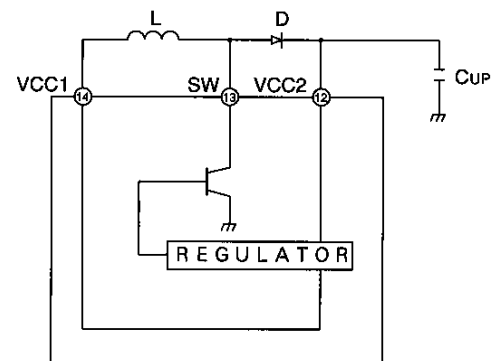

Fig. 15
By using the circuit shown in Fig. 15, this IC generates a voltage 6.5V (typ.) higher than the VCC1 input voltage at the VCC2 pin. This circuit allows the IC to drive MOSFET gates directly. With this circuit, the IC can drive a low-level side N-channel MOSFET at 3.6 to 18V (not possible with conventional ICs). In addition, an N-channel MOSFET can be used on the high-level side of a buck chopper. In Fig. 15, the inductor (L) is about $100\mu\text{H}$ or more and the capacitor (Cup) should be greater than about $0.1\mu\text{F}$.